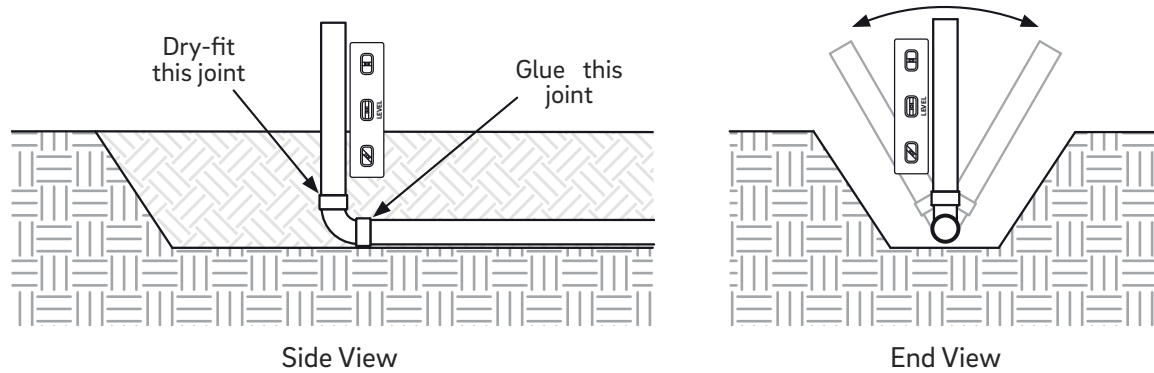

Figure 5
- Using the piece of riser pipe, dry-fit it into one socket of a 90° elbow and glue the other socket onto the end of the main suction that was terminated. In the time it takes the glue to set, use a level against the riser to adjust the 90° elbow to ensure that the riser is vertical on all sides (Figure 5).